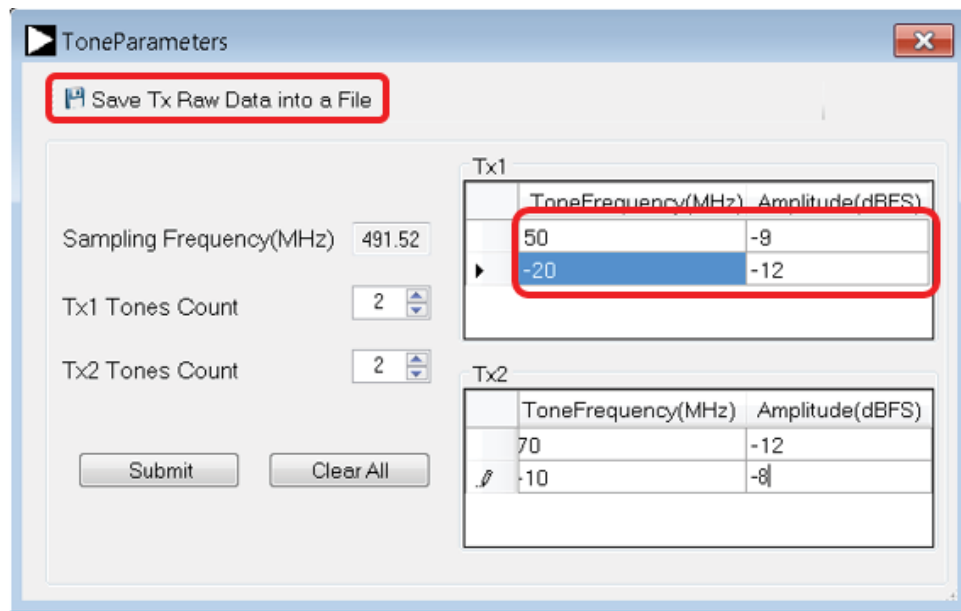

Figure 37. Transmitter Tone Parameters Setup Menu
- A single tone or two tones can be generated by the evaluation system using the **ToneParameters** menu shown in Figure 37. In this window, the user can select the number of tones (1 or 2) to be transmitted on the selected transmitter output. The user has control over the tone frequency offset with respect to the LO frequency and tone amplitude in dBFS. The user can store these signals in the form of test files by selecting the **Save Tx Raw Data into a File** option. Note that the play button must be pressed before data is populated in these files.
- User generated data files can be selected using the **Load Tx1** button and the **Load Tx2** button. Format the data files as one I sample and one Q sample per line. Each I or Q sample must be in the range from +32767 to -32768. If the I and Q samples are smaller than this range, the software scale them up to numbers in the correct range. The file size is limited to four mega samples (MS) for each channel (I data = 4 MS maximum, and Q data = 4 MS maximum).